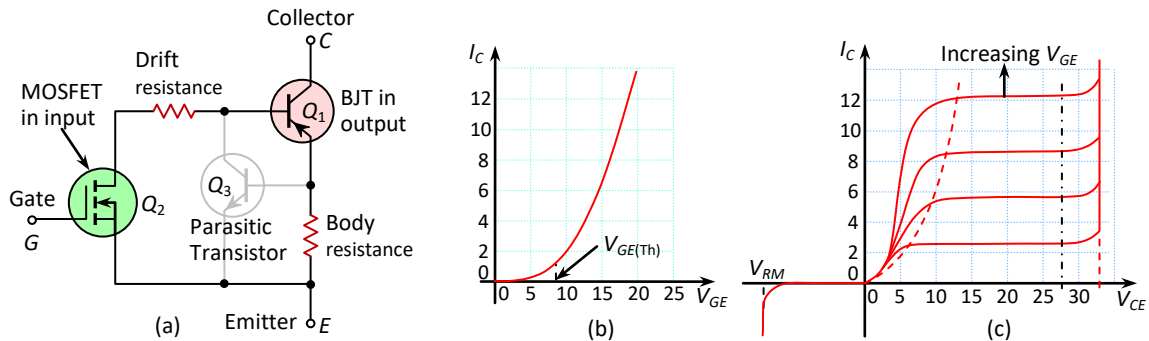

Fig.10-6: (a) Equivalent circuit of IGBT, (b) Input characteristics, and (c) Output characteristics
**IGBT** is the short form of **Insulated Gate Bipolar Transistor**, combination of Bipolar Junction Transistor (BJT) and Metal Oxide Semiconductor Field Effect Transistor (MOSFET). As shown in Fig.10-6(a), it is the combination of a MOSFET and a BJT. It is a semiconductor device used as very high power switch.
input characteristic is same as that of EMOSFET and the output characteristics are same as that of BJT [as shown in Fig.10-6(b) and (c)].